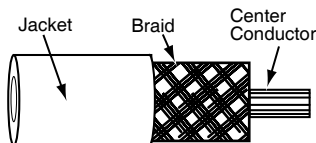

Fig. 4
7. Rotate with minimal forward pressure until tool rotates freely, exposing the braid. (Fig. 4)